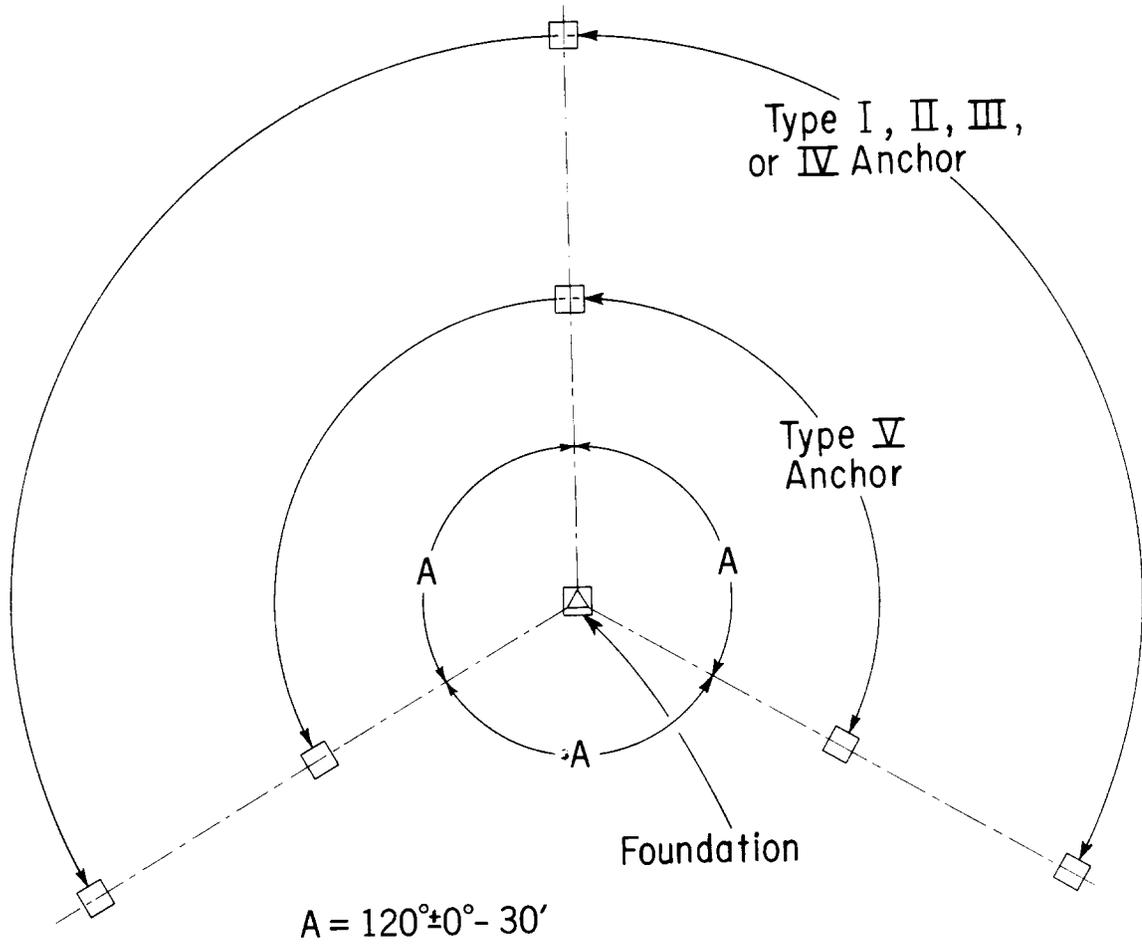

Fig. 4 — Anchor Layout
3.01 The B Guyed Tower is guyed in three directions with guy anchors spaced 120 degrees apart. Each guy is attached to a separate guy rod, although two or three rods may be embedded in the same concrete anchor. Block anchors should be located so as to provide a lead-to-height ratio of 1 (45 degree angle) for the top set of six guys. For 100- to 200-foot towers, a second set of three guys is also attached to the same anchors. Towers of 220-foot height or greater require three levels of guying and two rings of anchors; both top and middle guys are installed at a 45 degree angle. The general layout is shown in Fig. 4. Because of the blind sectors (Section AG25.200), the orientation of the guy anchors must be selected carefully to permit transmission in the required directions.